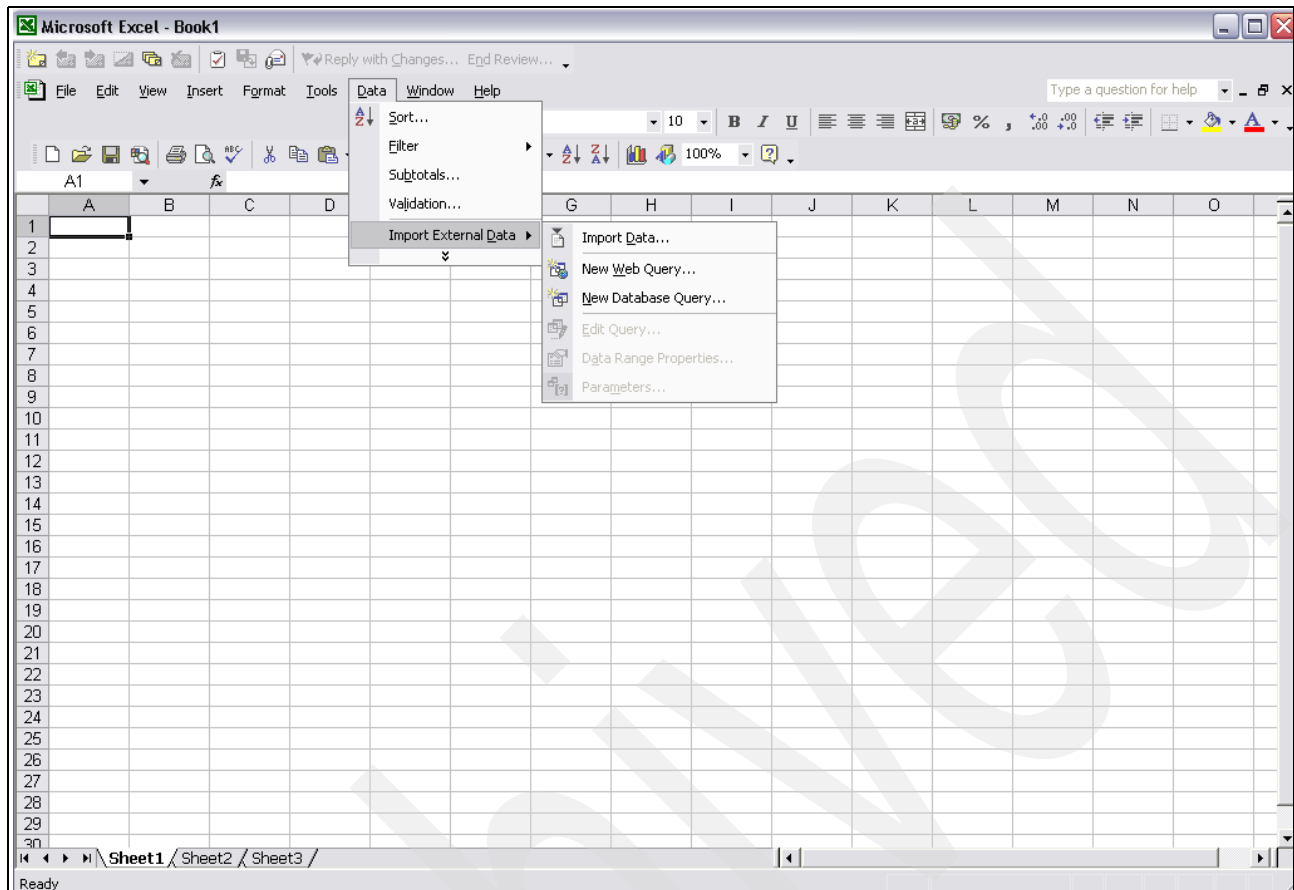

Figure 6-57 Select Data → Import External Data → Import Data
2. Select **Data** → **Import External Data** → **Import Data** as shown in Figure 6-57 on page 284.